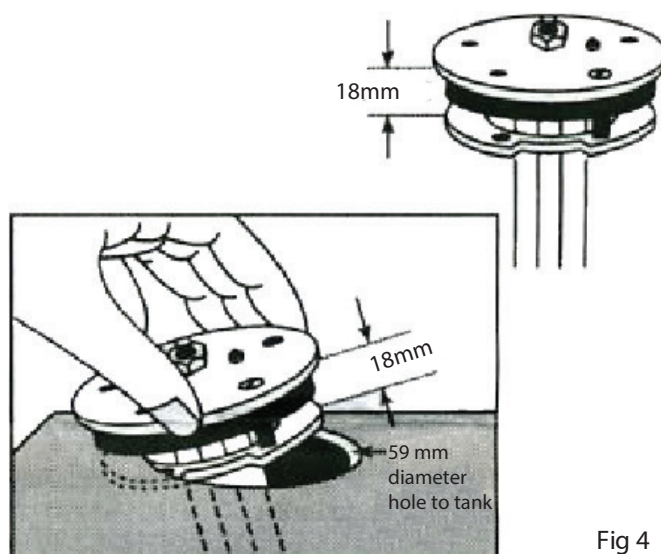

Fig 4
3. Slip the fuel sender assembly into the 59mm hole in the tank and turn until it goes into the tank. (Refer to Fig. 4)